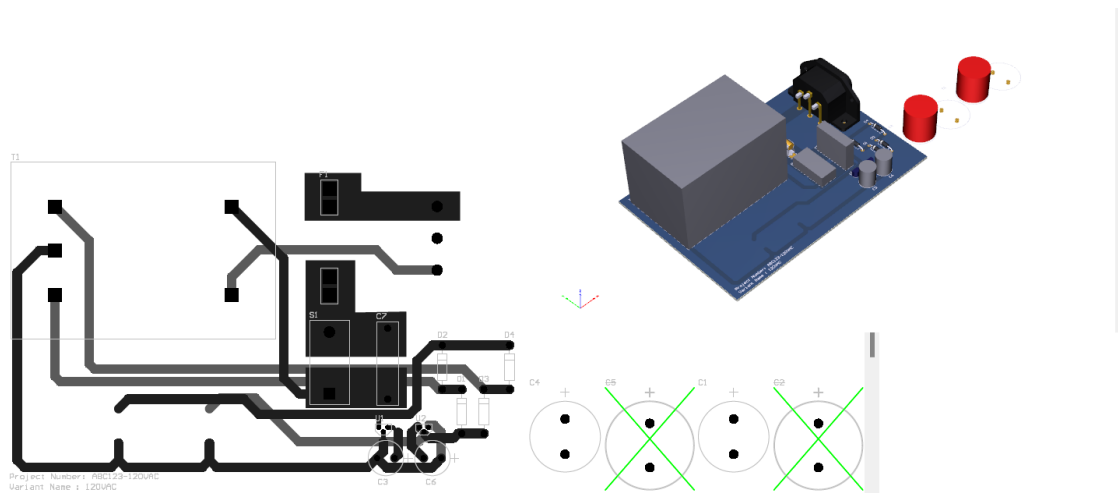

Figure 11. PCB documentation with Variant
39. Select the PDF container area and click the **Generate Content** button, as shown in Figure 11, to create a PDF of the Schematic, PCB Assembly Drawings, and 3D View.